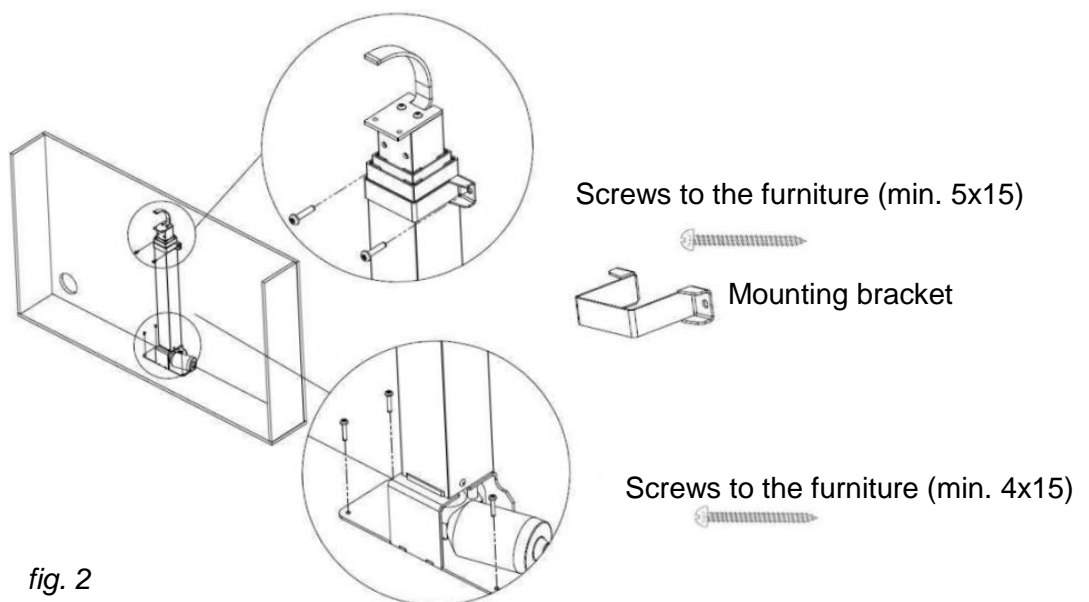

fig. 2
3. Use provided mounting bracket and attach column to the back of the cabinet (fig.2).
4. Attach the lift to the furniture using screws (fig. 2)